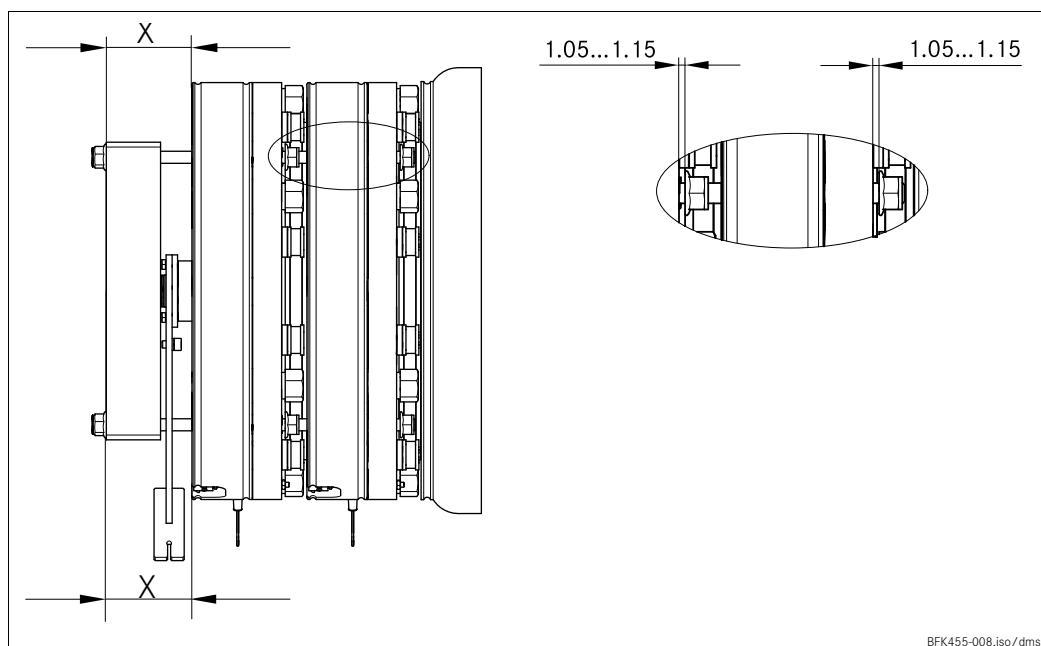

Fig. 18 Test dimensions and reference dimensions
13. Evenly tighten the self-locking nuts (Pos. 12.8) at the clips (12.11) up to the point where the nuts of the tension rod are in contact with the armature plate of the second stator (1A) (tangible resistance). Observe the parallel alignment of the clips (12.11) with the back side of the complete stator (1A) (check by means of a caliper gauge). In the case of deviations $X > 0.1\text{mm}$ (Fig. 18), correct the setting by loosening the self-locking nut (12.8) with the smaller measured value and by tightening the self-locking nut (12.8) with the greater measured value until the clips (12.11) are aligned in parallel with the back side of the brake, Fig. 18.
14. Evenly tighten the self-locking nuts on the motor end shield side up to the point where the nuts of the tension rod are in contact with the armature plate of the first stator (1) (tangible resistance).